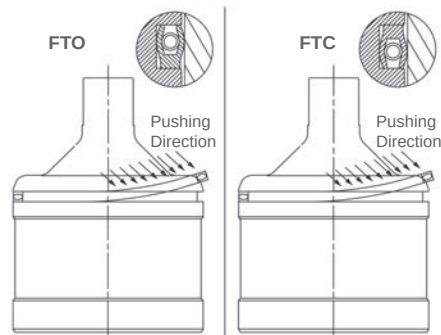

Figure 4 - Spring Energized Seal Ring
(Figure 4 on page 16, Figure 9 on page 24, and Figure 12 on page 25)
- Place the ring over the conical top of the plug so that the lips of the ring face the pressure side - see Figure 4.
**To the assembly direction of the radial ring (11F) on the plug (see Figure 4). Flow Tends to Open: the open side is in the top. Flow Tends to Close: the open side is in the lower part.**
- Slip the ring into the groove (without spinning it) as shown in Figure 4. This operation can be facilitated by heating the ring. The temperature of the ring should not exceed 150°C.